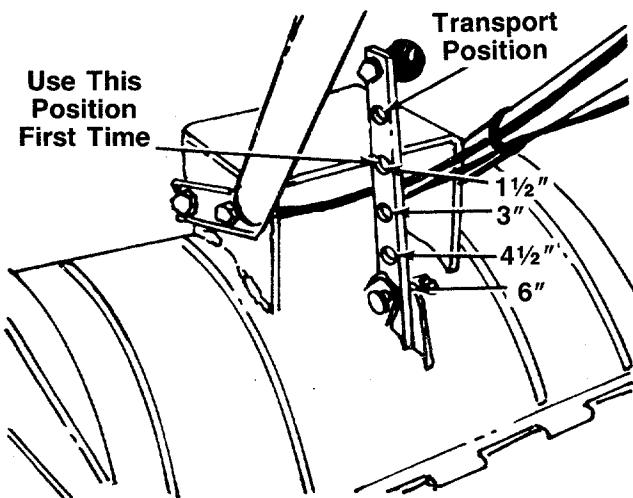
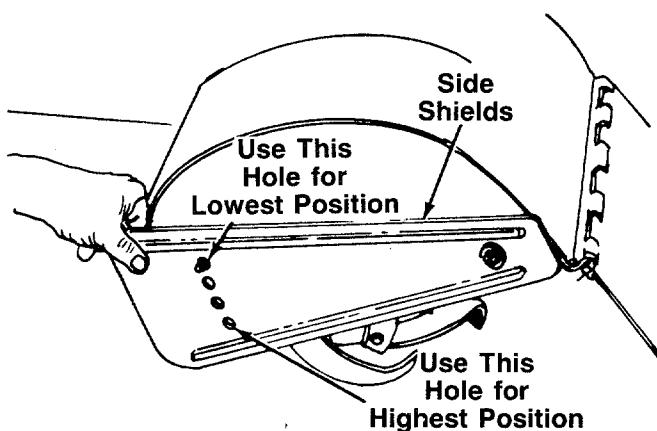

FIGURE 18.
FIGURE 19.
When operating the tiller for the first time, use the depth bar setting that gives 1 1/2 inches of tilling depth (second hole from the top). Refer to figure 18. Use slow speed only.
Tilling depth is controlled by the depth stake which can be adjusted to five different settings. See figure 18. Adjust the side shields as shown in figure 19, as you adjust the depth stake. Be certain spark plug wire is disconnected and grounded against the engine.
1. When using the tiller for the first time, use the second adjustment hole from the top (1 1/2" of tilling depth). See figure 18.
To adjust the depth stake, remove the clevis pin and hairpin cotter. See figure 18. Move the depth stake to the desired setting.
To adjust the side shields, remove the hex nut and belleville washer from the front and loosen the rear nut. See figure 19. Pivot the side shield to the desired position. Replace hex nut and belleville washer. Tighten securely.